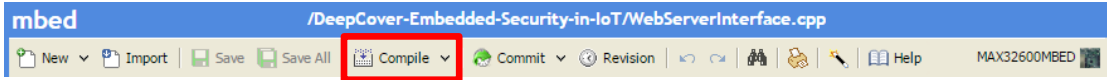

Figure 8. Compiling the firmware.
3. Compile the firmware (Figure 8). A window prompts the user to download **DeepCover-Embedded-Security-in-IoT.bin**, the compiled binary firmware.